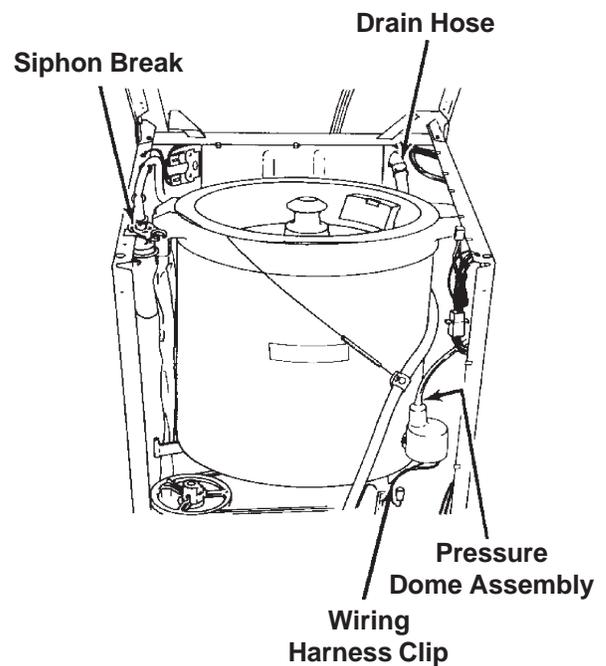

Fig. 5-12
10. Remove the screw securing the siphon break to the cabinet. (Fig. 5-12)
11. Disconnect the drain hose from the drain connector. (Fig. 5-12)
12. Release the wiring harness from the clip on the baseplate. (Fig. 5-12)
13. Disconnect the pressure switch hose from the air dome assembly. (Fig. 5-12)